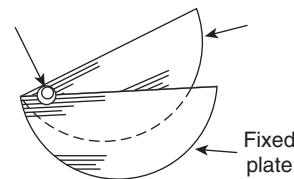

Figure 6.14
1. **Variable air capacitors.** These usually consist of two sets of metal plates (such as aluminium), one fixed, the other variable. The set of moving plates rotate on a spindle as shown by the end view of Fig. 6.14.